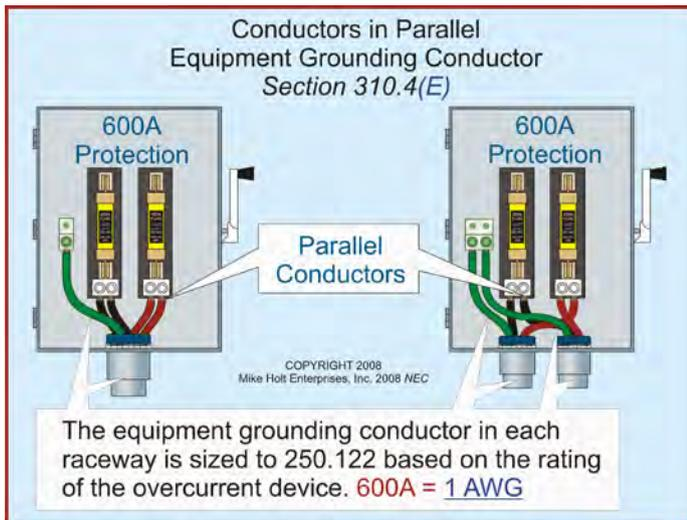

Figure 310-5
(E) Equipment Grounding Conductors. The equipment grounding conductors for circuits in parallel must be identical to each other in length, material, size, insulation, and termination. In addition, each raceway, where required, must have an equipment grounding conductor sized in accordance with 250.122. The minimum 1/0 AWG rule of 310.4 doesn't apply to equipment grounding conductors. See 250.122(F)(1) for more information on equipment grounding conductors installed in parallel. **Figure 310-5**